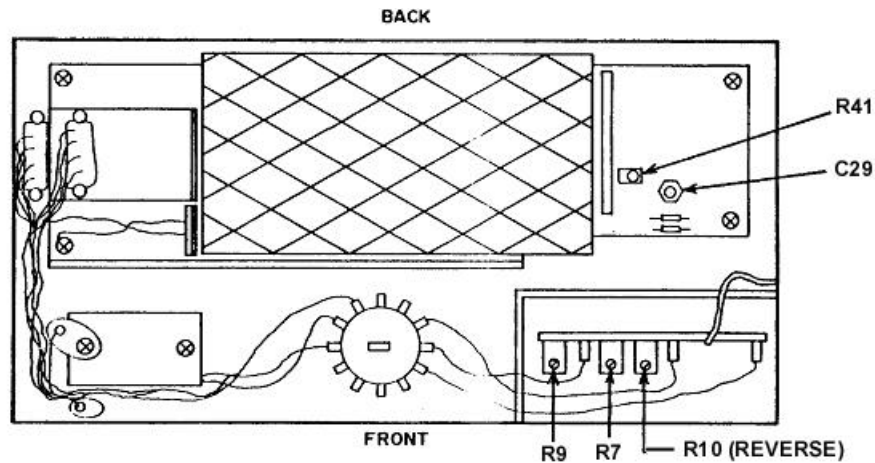

Figure 1. Test instrument - bottom view.
(1) Connect spectrum analyzer RF input to TI **RADIO** connector.
(2) Set **MODE** switch to **SENS SQ** and press **PUSH-TO-TEST** button.
(3) For SN 1 through 634, adjust spectrum analyzer to observe frequencies from 30 to 75 MHz. If output levels do not indicate between -94 and -100 dBm from 30 to 75 MHz, perform **b** below. For SN 635 and above, adjust spectrum analyzer to observe frequencies from 30 to 80 MHz. If output levels do not indicate between -95 and -101 dBm from 30 to 80 MHz, perform **b** below.
b. Adjustments. Adjust R41 (fig. 1) for overall output levels and C29 (fig 1) for higher frequency output levels for spectrum analyzer indications between -94 and -100 dBm for SN 1 through 364 and between -95 and -101 dBm for SN 635 and above (R).
- (1) Adjust RF power amplifier for power meter reading computed in **a**(4) above.
- (2) Adjust R9 (forward) (fig. 1) until TI display indicates 40.0 W (R).
- (3) Adjust R7 (forward) (fig. 1) until TI display indicated 1.0 W. Repeat (1) through (3) above as necessary to obtain best in-tolerance conditions throughout the range of instrument.
- (4) Adjust RF power amplifier for power meter reading computed in **a**(4) above.
- (5) Adjust R10 (REVERSE) (fig. 1) until TI display indicates 20.0 W (R).